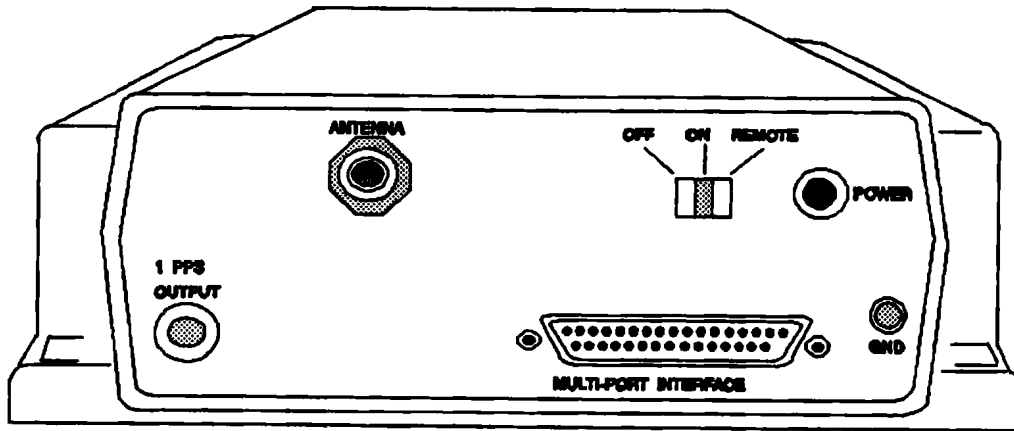

Figure 6. Rear Panel of the DGPS 12 Channel Receiver
Connect the antenna cable to the ANTENNA input connector (refer to Figure 6).
External equipment connects to the MULTI-PORT Interface connector on the rear panel of the receiver unit (see Figure 6). The interface consists of four Input/Output (I/O) serial ports; two RS-232 ports and two RS-422 ports. IBM compatible (DOS-based) software controls the communications. Figure 6 shows you the MULTI-PORT Interface connector pin assignments. If you are logging data with a personal computer (PC) on one of the two RS-422 ports (2 and 4), you will need the optional RS-422 to RS-232 data converter kit, P/N 741692-804. You determine the exact use of the individual I/O ports by your needs and choice of associated equipment. You may, for example, use the Magnavox Navigator to navigate as a stand-alone unit or as a component in an integrated system.